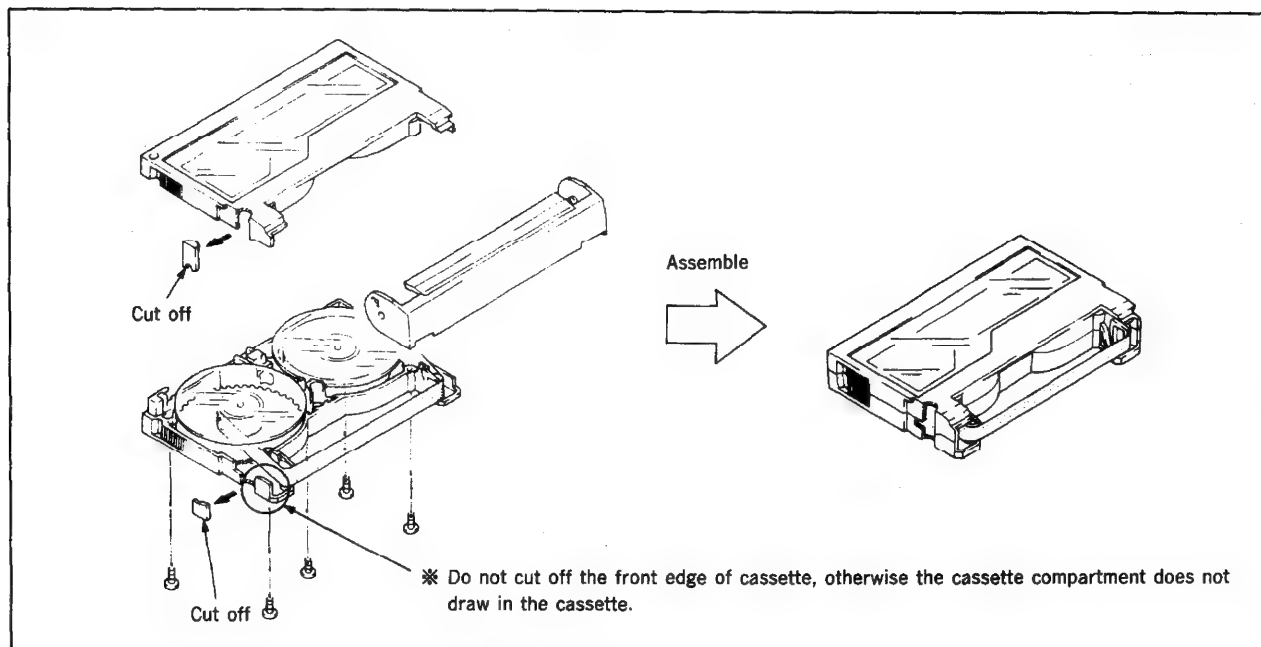

Fig. 35
**Note :** This adjustment requires the No. 7 guide adjusting cassette (Fig. 35).
- 2) Confirm that the tape is not bent between the No.6 guide (TG6) ① and the capstan ②. If it is, turn the height adjusting screw ④ of the No.7 guide (TG7) ③ until the tape is straightened.
- 3) Set the playback mode again and confirm that the tape is not bent between the capstan ② and the No.7 guide (TG7) ③ (specification : 0.5mm or less). If the tape is bent beyond the specification, turn the height adjusting screw ④ until bending is within the specification (0.5mm).